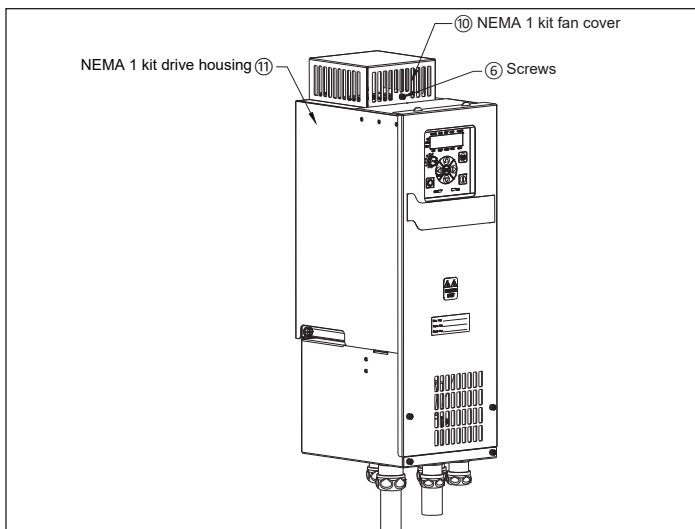

Figure 24. Mounting the fan cover.
Mount the NEMA 1 kit fan cover ⑩ back to the NEMA 1 kit drive housing ⑪ with the screws ⑥ (see Figure 24).